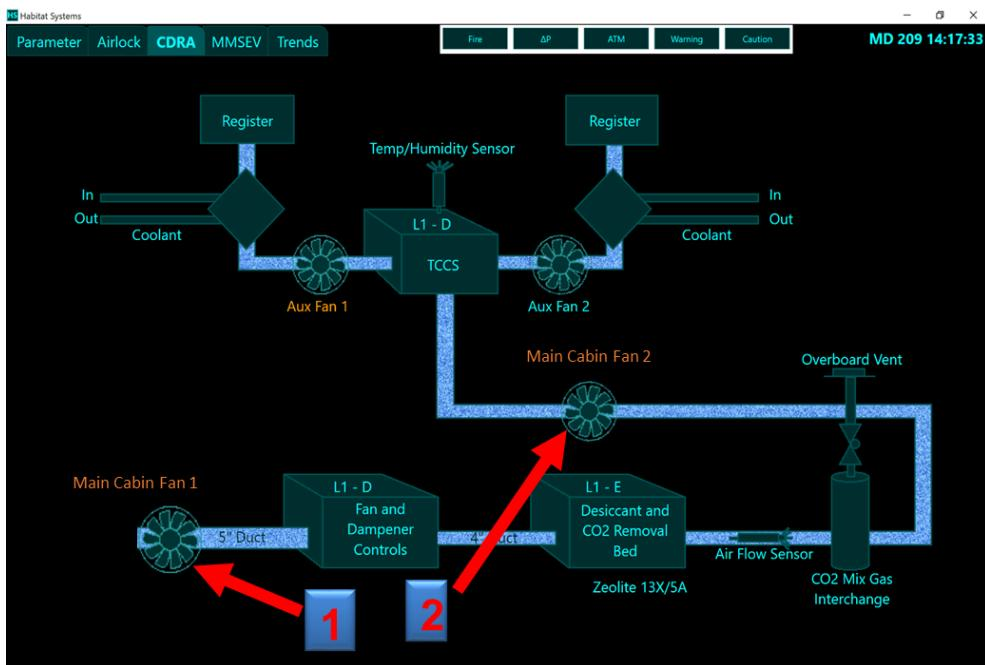

Figure 1: HSS Main Cabin Fan Power
- 1.1 On HSS CDRA display, touch Main Cabin Fan 1 icon to deactivate fan (see Figure 1)
- 1.2 On HSS CDRA display, touch Main Cabin Fan 2 icon to deactivate fan (see Figure 1).
8.1 On HSS CDRA display, touch Main Cabin Fan 1 icon to activate fan (see Figure 1).
8.2 On HSS CDRA display, touch Main Cabin Fan 2 icon to activate fan (see Figure 1).